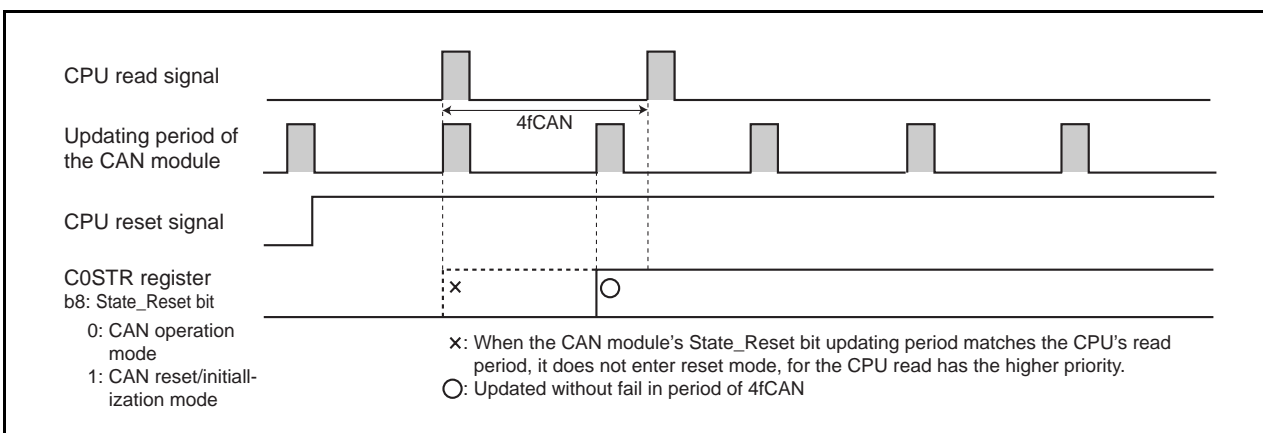

Figure 22.10 When Polling Period of CPU is 3fCAN or Longer
- When the CPU polls the C0STR register, the polling period must be $3f_{CAN}$ or longer. (See Figure 22.10)